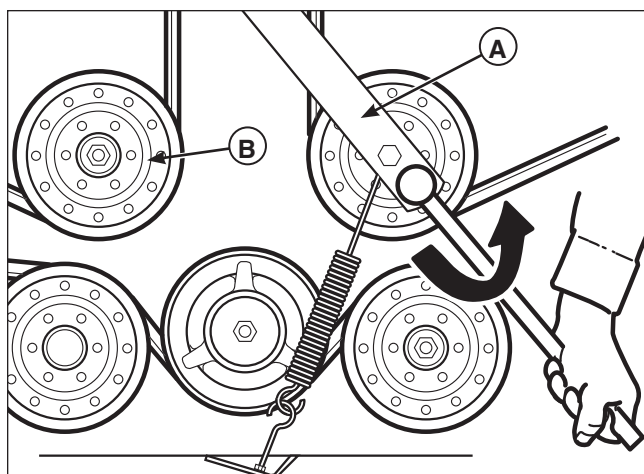

Figure 51. Mower PTO Belt (61" Mower Deck)
2. **For 61" deck:** Using a 1/2" breaker bar, place the square end in the square hole located in the end of the idler arm (A, Figure 51). Carefully rotate the breaker bar COUNTER-CLOCKWISE, which will relieve the tension on the belt exerted from the idler arm.
5. **For 61" deck:** Install the drive belt on the PTO pulley, the spindle pulleys and all idler pulleys except the stationary pulley (B, Figure 51). Carefully rotate the breaker bar COUNTER-CLOCKWISE and install the belt on the stationary idler pulley (B). Carefully release the tension on the breaker bar.